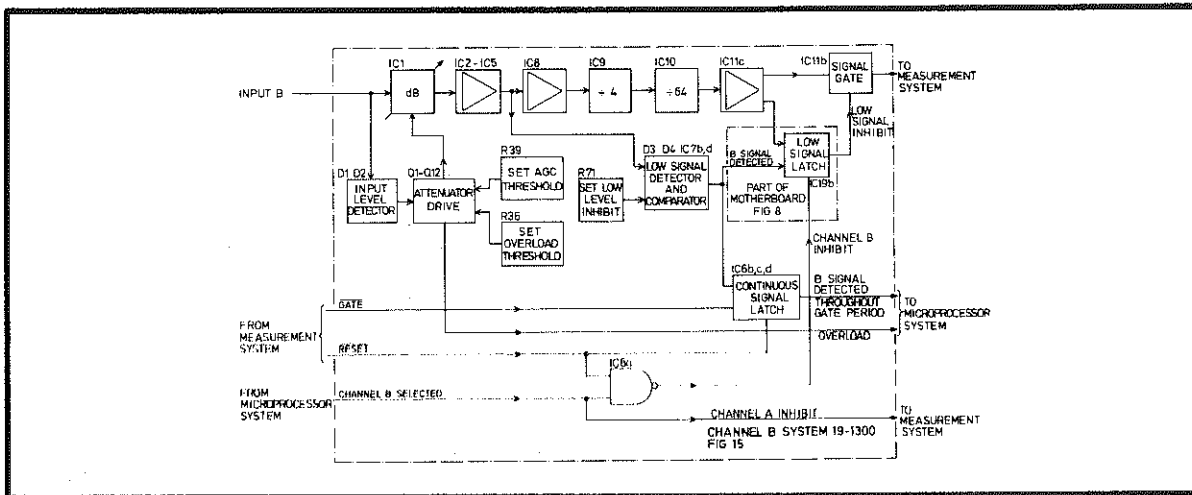

Fig 6.4 The 1999 Channel B System
- 37 A block diagram of the system is given in Fig 6.4. The system processes the signal applied at the B channel input and feeds it to the measurement system.